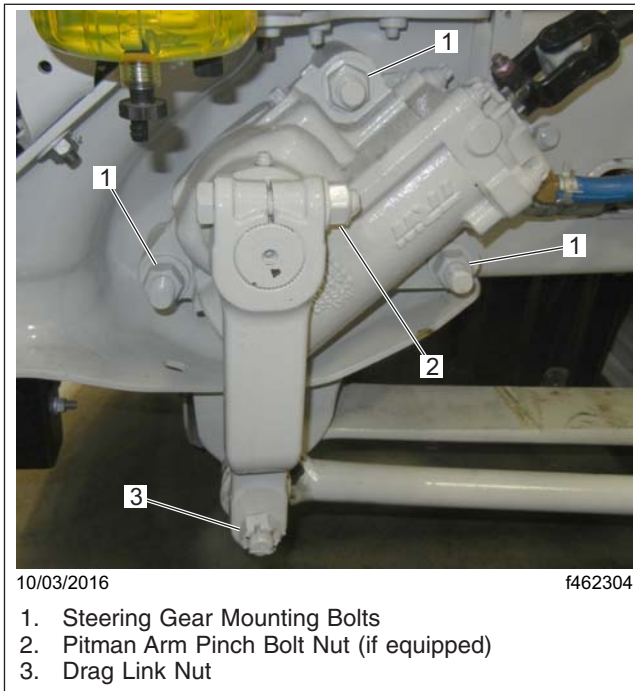

Fig. 23.13, Standard Steering Gear Fasteners
- 6.2 Check the steering gear mounting bolts and pitman arm nut, if equipped, for signs of looseness. See Fig. 23.13.